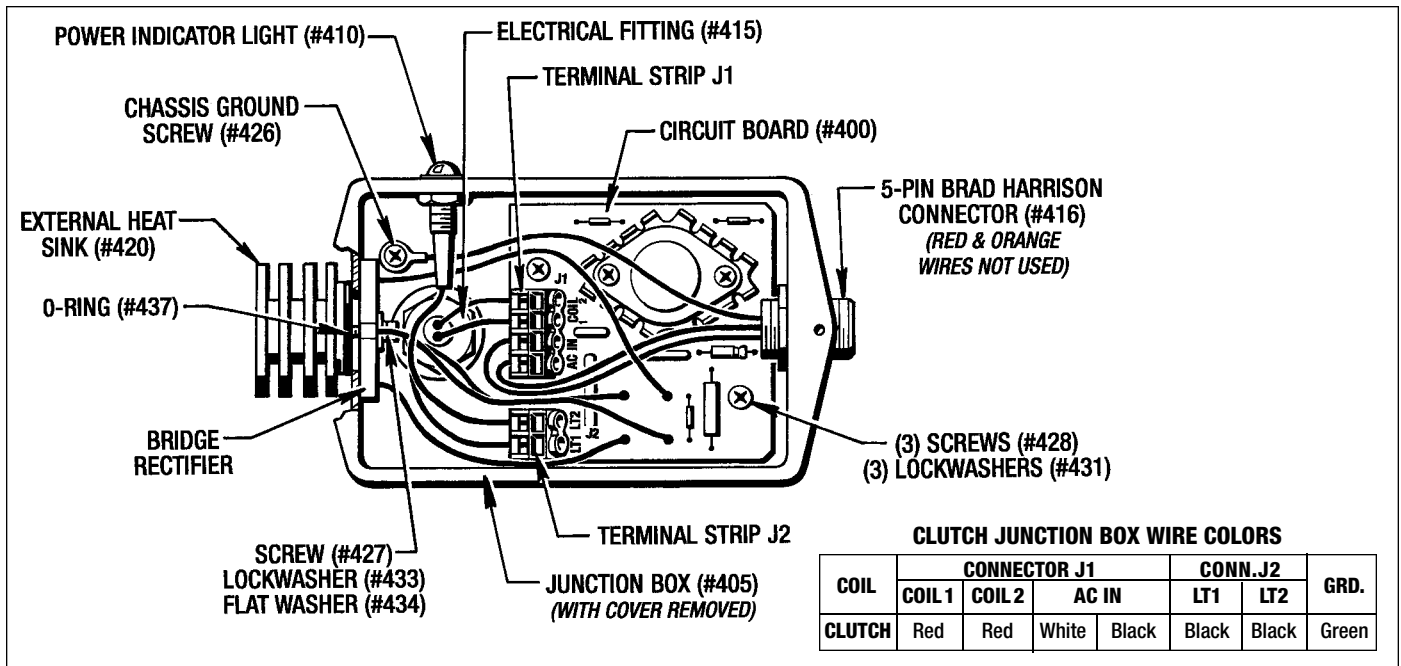

Figure 7.2 - Clutch Junction Box With Cover Removed
- Disconnect the coil leads from the Terminal Strip J1, located on the Circuit Board (#400) and remove the compression nut from the Electrical Fitting (#415). (See Figures 7.2 and 7.3)
(See Figure 7.2)